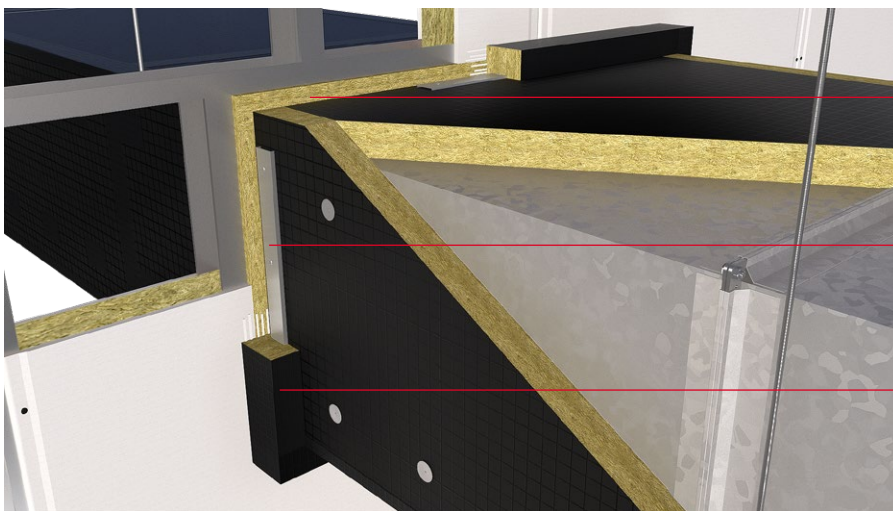

Figure 9
2. Fill the remaining annular space between the DuctRock® Slab and supporting structure of the dry wall system with ROCKWOOL RWA45 as shown in Figure 9.
5. Once the u-profiles have been applied an insulated collar must be installed around the perimeter of the aperture. The collar can be simply cut from the DuctRock® Slab. Fix the collars in place with FIREPRO Glue as shown in Figure 9. Use nails to temporarily hold the collars in place whilst the glue cures.